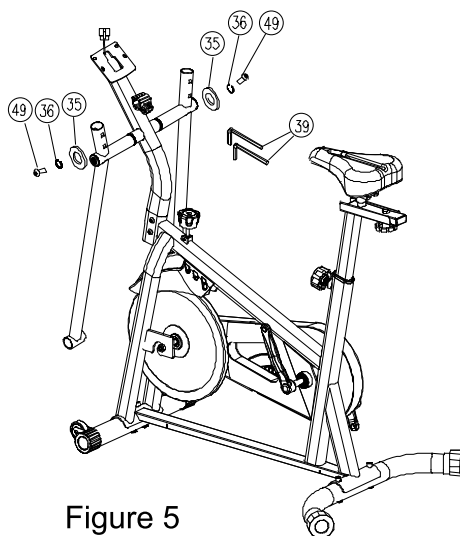

Figure 5
5. Fit one M8×20 patch-locking hex socket button head screw (Part 49) through one Φ8 spring washer (Part 36) and one Φ8.5×30×2T flat washer (Part 35), then tighten the screw clockwise, as shown in Figure 5.